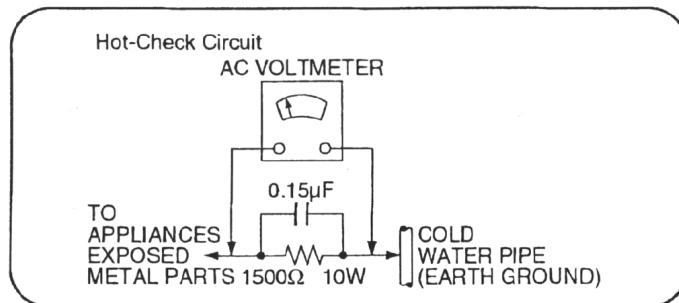

Figure. 1
### 1.1.2. LEAKAGE CURRENT HOT CHECK (See Figure 1.)
2. Connect a  $1.5k\Omega$ , 10 watts resistor, in parallel with a  $0.15\mu F$  capacitors, between each exposed metallic part on the set and a good earth ground such as a water pipe, as shown in Figure 1.